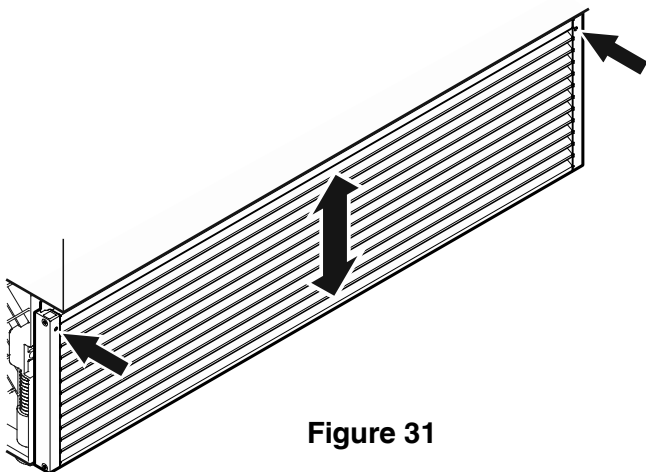

Figure 31
8. Adjust the height of the ventilation grille (**Figure 31**).